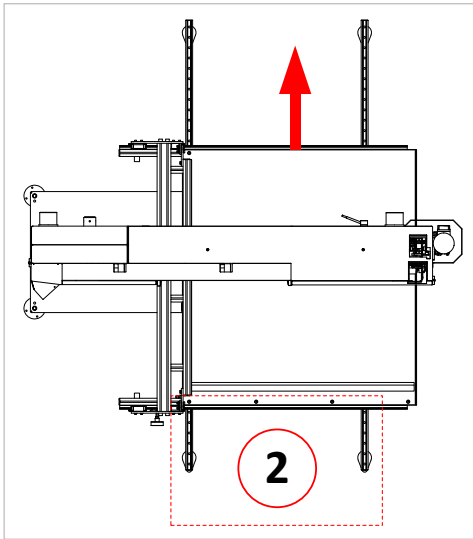

Figure 9: Move the sliding table (left) to the back
1. Release the two clamping levers (H) located on the left and right under the table top.
2. To enable access for mounting, the left sliding table must first be pushed all the way back (see arrow in ⇨ Figure 9).
3. Retighten the two clamping levers (H) to fix the table in the rear end position.